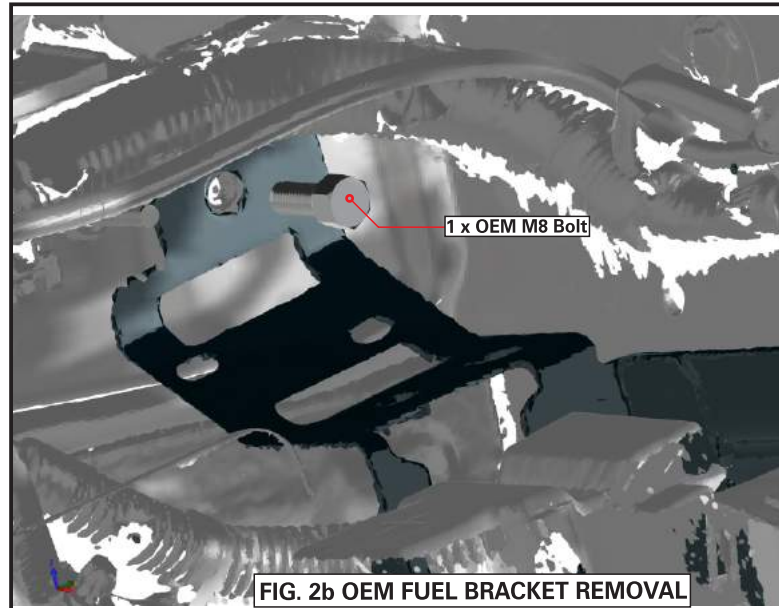

FIG. 2b OEM FUEL BRACKET REMOVAL
5. Unscrew the OEM M8 bolt shown in Fig. 2b. Place this M8 bolt with the other 2 OEM M8 bolts as you will be using these to fit the Ryco FB9817FC bracket later.